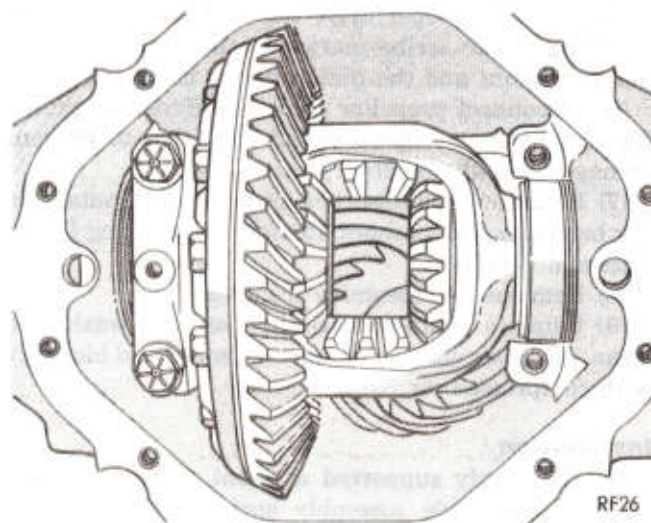

Fig. 14—Axle with One Bearing Cap Removed
(14) Place one hand on differential assembly to hold it in position. Using **extreme caution** remove bearing caps, adjusters and differential assembly (Fig. 14). Differential bearing cups and threaded adjusters must